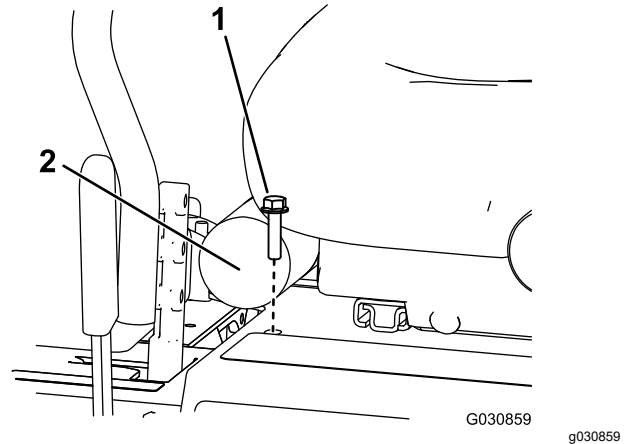

Figure 9
3. Install a bolt (5/16 x 1-1/4 inches) in the hole to secure the seat plate (Figure 9).